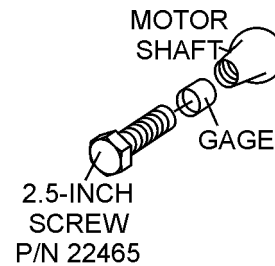

Figure 6. 2.5-Inch Bolt With Gage
5. Slide gage block, Figure 6 (P/N 23380) over 2.5-inch bolt P/N 22465, and insert bolt into motor threaded shaft. Torque hand-tight to 10 ft-lbs.